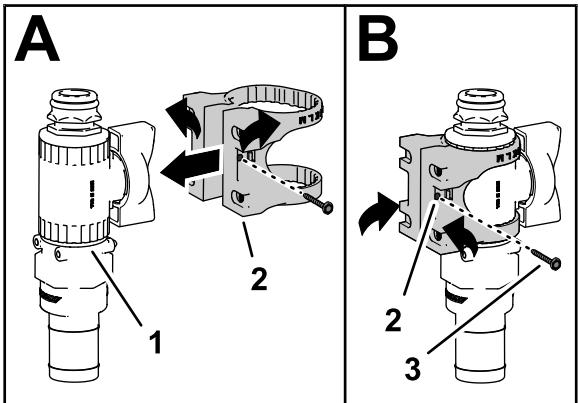

Figure 37
6. Assemble the valve mount onto a straight control valve as shown in A of Figure 37.
7. Secure the valve mount to the control valve with the flange-head screw (#6), and tighten the screw by hand (B of Figure 37).